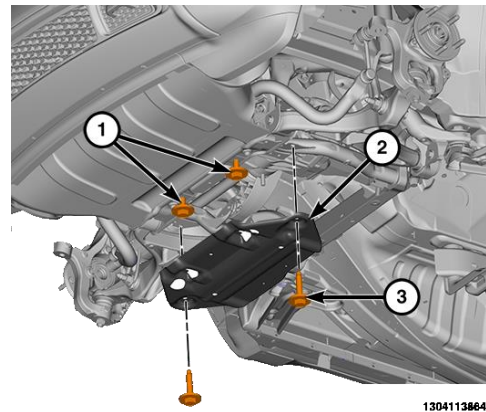

Figure 3 – Front Suspension Skid Plate
9. Remove the front suspension skid plate by loosening the front bolts (1), removing the rear bolts (3), then the skid plate (2) (Figure 3).